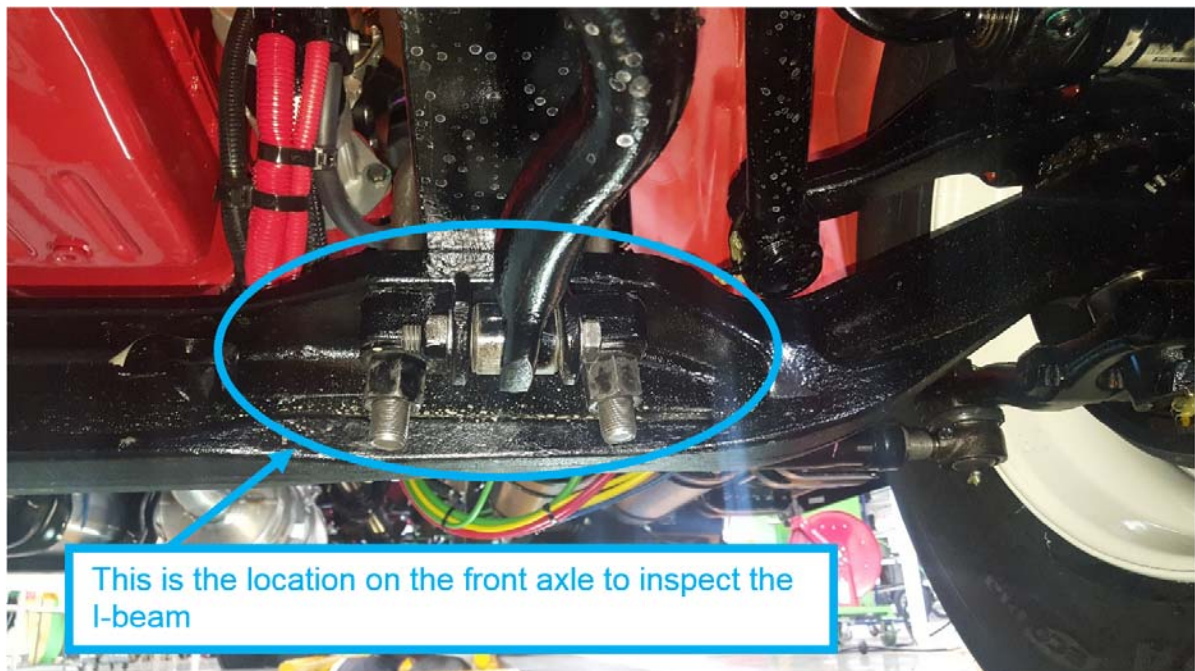

Figure 3: I-Beam Stabilizer Mounting Location
3. Check the mating surface on the bottom of the front side of the I-Beam where the stabilizer bracket is mounted (see Fig 3 and 4).